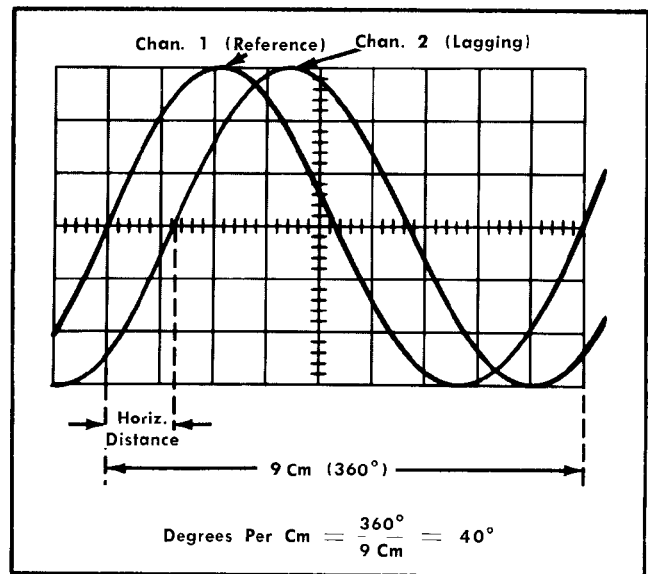

Fig. 3-3. Measuring phase shift between two sine waves.
For example, assume that the Time/Cm switch setting is $2 \mu\text{sec}$, the Magnifier is set for $5\times$ magnification, and there is a horizontal distance of 3 cm (as shown in Fig. 3-3) between the leading edge of the reference waveform and the leading edge of the waveform displayed by Channel 2. Then substitute these values in the preceding formula:
5. Turn the oscilloscope Variable Time/Cm control counterclockwise until 1 cycle of the reference signal occupies 9 cm horizontally. Use the Trigger Slope and Triggering Level controls to trigger on the reference waveform at any point you desire. Each cm on the graticule now represents 40° of 1 cycle (see Fig. 3-3).
6. Measure the horizontal distance, in cm, between corresponding points on the waveforms. Note the distance and whether the Channel 2 waveform is leading or lagging (see Fig. 3-3).